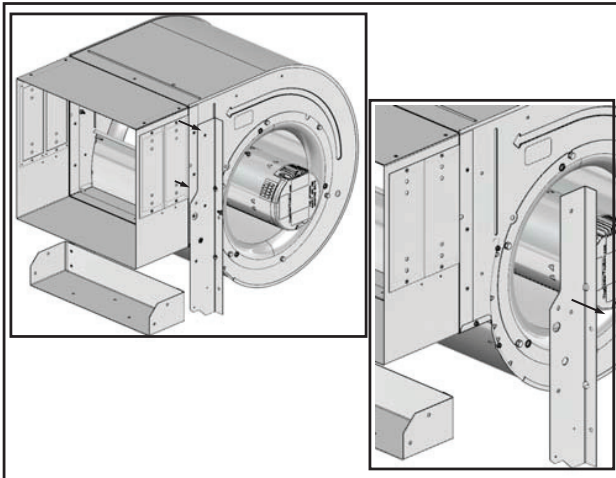

Fig. 45 - Remove Vertical Bracket
5. Remove and retain (1) vertical bracket by removing (2) screws. See Fig. 45.